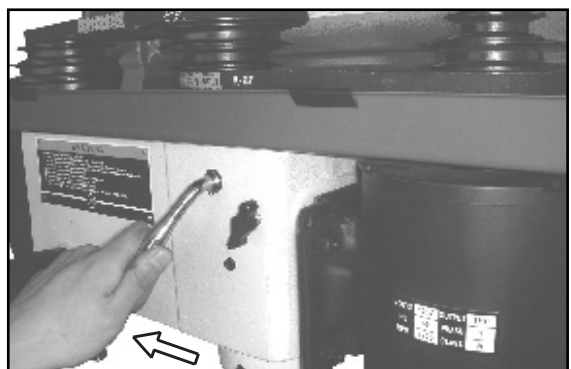

Figure 15
3. Release the locking knobs (#1D) on the both sides of drill press head. Release the tension on the belt by swinging the tension lever (#3D) from right to left (Figure 15).